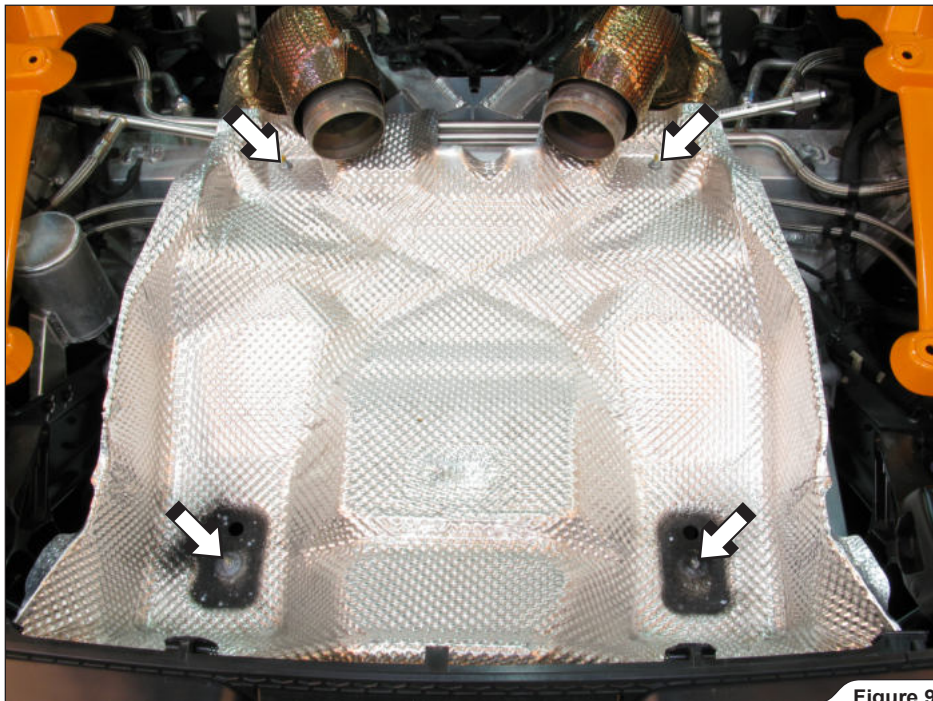

Figure 9
8. Unscrew the marked heat shield nuts and carefully remove the lower heat shield off the vehicle (Figure 9).